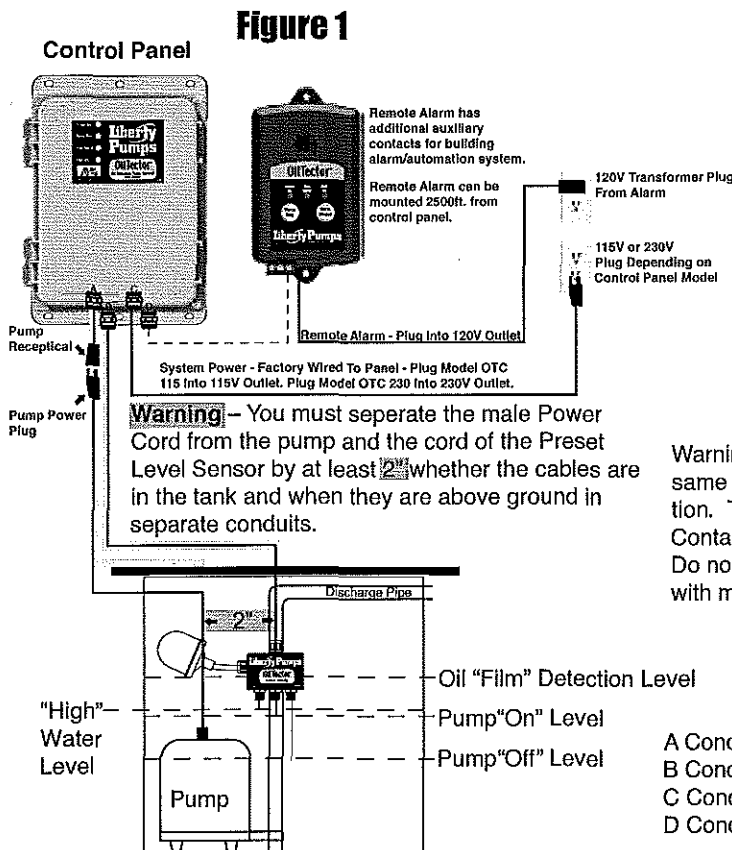
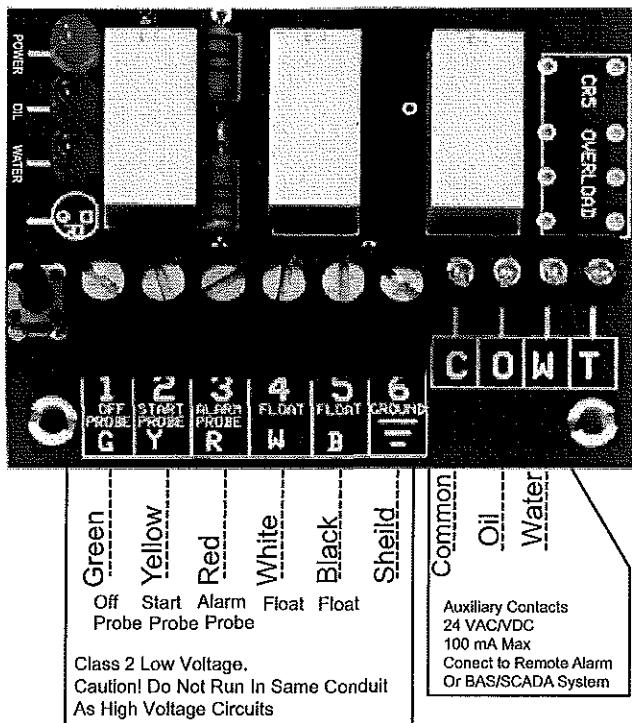

Figure 1
Figure 4
4. If the panel is to be installed with conduit, the cables and cord seals must first be removed. Please make note of wire locations. The incoming power (115V or 230V) is connected to L1 and L2 of the contactor, pump receptacle is T1 and T2 on the contactor. Low voltage cable from the level sensing module: green - TB1 off probe, yellow - TB2 start probe, red - TB3 alarm probe, white - TB4 float, black - TB5 float, TB 6 Shield. Low voltage auxiliary contacts are C, O & W. Do not mix low voltage probe wires or auxiliary contacts in high voltage conduits. See figure 1 and figure 3.
1. Review figures 4, 5 and 6.
1. To install/replace the battery for the backup power feature, remove the access cover (Fig. 1) and install 9 VDC battery (Fig. 2). After installing battery, press the test button (Fig. 3) to activate the alarm to make sure the battery works properly. The power indicator, high oil indicator and high water indicator light should illuminate and the buzzer should annunciate. If using the auxiliary contacts, leave cover off until step 3 is completed. If you are not using them, replace the access cover (Fig 4).
(Fig. 1)
(Fig. 4)
1. Before lowering the sensor probe into the pail, lift the float switch, the HIGH OIL indicator (Fig. 1 on this page) will be illuminated. The auxiliary contacts in the control panel and the remote alarm will activate for oil alarm.
2. (Press down and hold the tact switch on the circuit board - Fig. 2) while lowering the sensor into the bucket so the bottom and middle probes touch the water (Fig 3), the pump should activate. While the pump is activated, slowly remove the sensor probe out of the water until the longest probe is no longer in the water (Fig 4), then let go of the tact switch (Fig 2) and the pump should turn off. Repeat a couple of times for quality assurance.
(Fig. 1) →